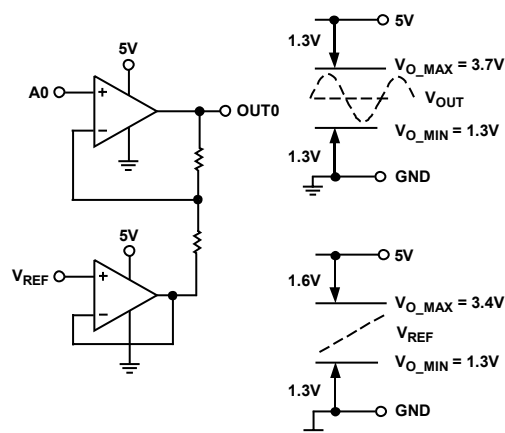

Figure 47. Output Compliance of Main Amplifier Channel and Ground Buffer
- On the AD8189, V_{REF} cannot be tied to the most negative analog supply, V_{EE} . The limits on reference voltage are (see Figure 47):